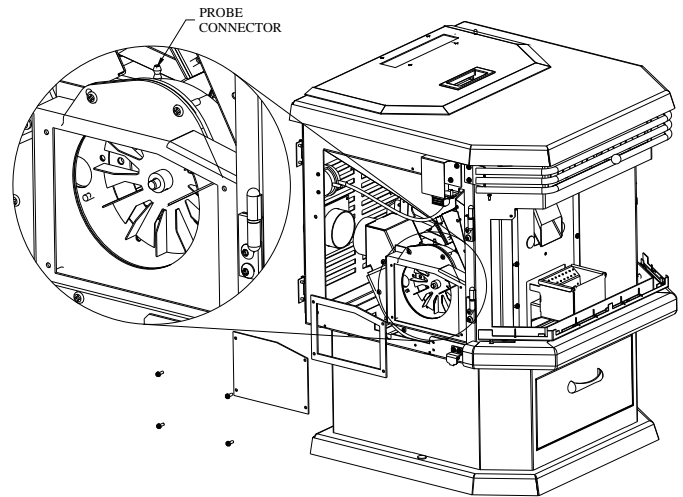

Figure 50
- **Blower Cleaning** – Over a period of time, ashes or dust may collect on the blades of both the combustion/exhaust blower and convection blower. Periodically, the blowers should be cleaned as the ash and dust can impede performance. The combustion/exhaust blower can be accessed by opening the left, right, and back panels.(Figure 50) To clean the blades in the combustion blower housing, insert the vacuum tip through the air inlet damper opening located on the side of the combustion blower housing. Clean thoroughly. To clean the blades in the exhaust blower housing, use a screw driver to remove the cleaning access panel located on the side of the metal box covering the housing. Insert the vacuum tip through the cleaning outlet and clean the blades thoroughly.